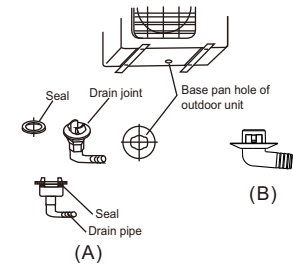

Fig.11
For the drain joint with the seal (Fig.11 (A)), first fit the seal onto the drain joint, then insert the drain joint into the base pan hole of outdoor unit, rotate 90 to securely assemble them. To install drain joint as shown in Fig.11 (B), insert the drain joint into the base pan hole of outdoor unit until it remains fixed with a clicking sound. Connecting the drain joint with an extension drain hose (Locally purchased), in case of the water draining off the outdoor unit during the heating mode.